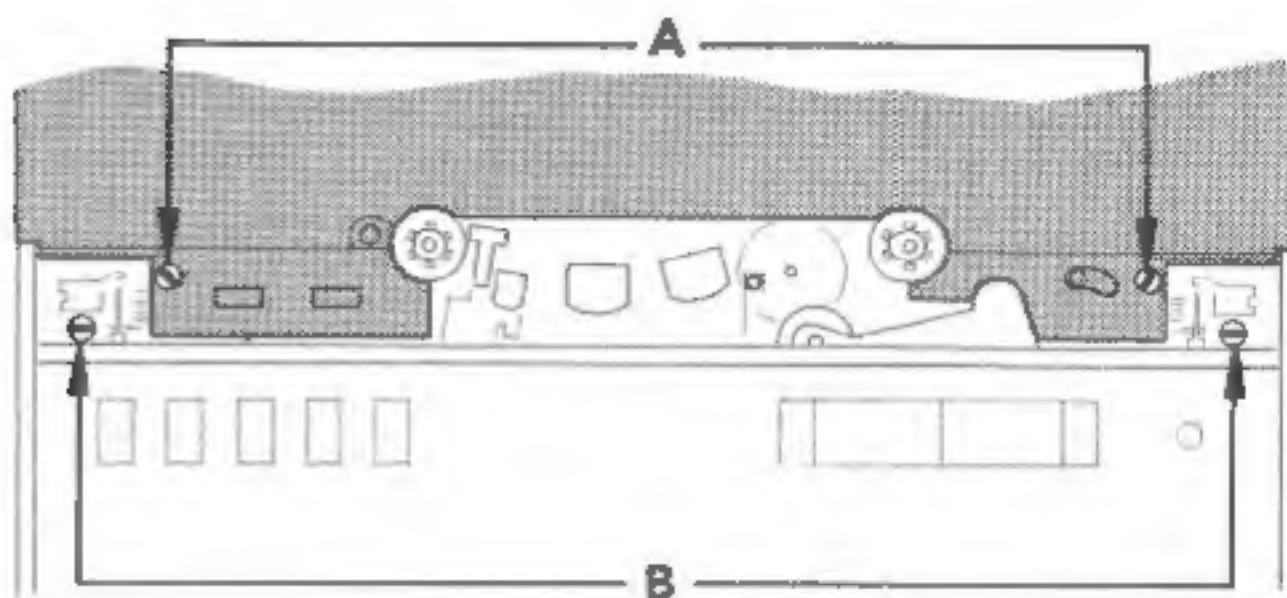

Fig. 3.2—4
- Undo screw A (fig. 3.2 —4). Pull cover panel off (Upper rim, 3 retainers).
- Undo screws B (fig. 3.2 —4). Pull out power switch knob as well as all rotary knobs and discs. Save retaining ring of power switch.